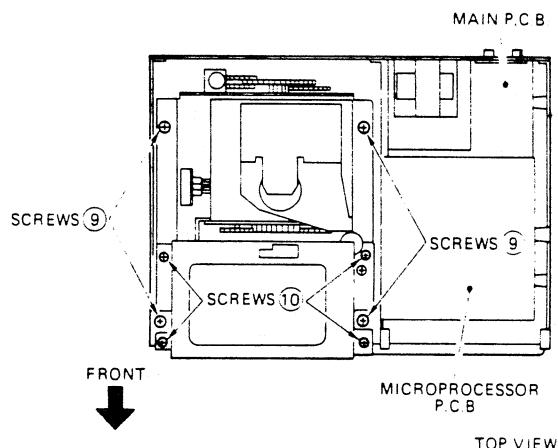

Fig. 6
- 2) Remove 4 screws ⑨ and lift the mechanism ass'y up to remove it. (Fig. 6)
Remove 4 screws ⑩ and remove the disc change ass'y. (Fig. 6)